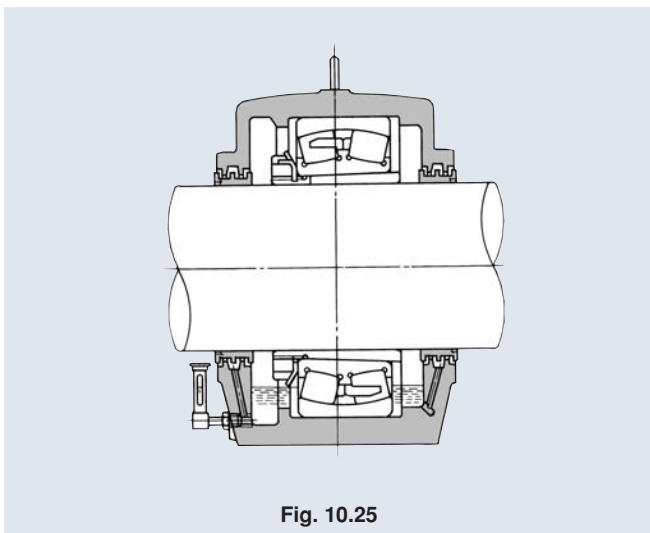

Fig. 10.25
- (5) If the bearing is lubricated with grease, fill the bearing interior with grease, and apply grease to the mating surfaces of the upper and lower plummer block housings. Also, apply grease to the sliding surface of the seal. In the case of a self-aligning roller bearing, incline the outer ring to allow a sufficient volume of grease to be packed into the gaps between the rollers and the cage. (For the volume of grease, refer to Section 11.)
- (6) In the case of oil-lubricated bearings, fill the oil up to the center of the lowest rolling element. (See **Fig. 10.25**.)